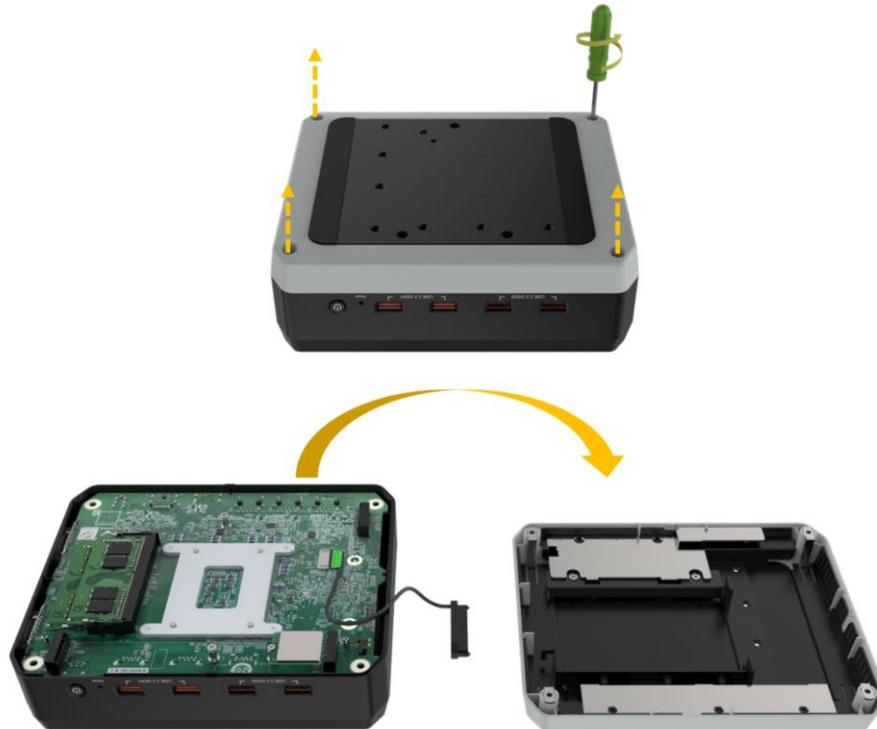

Figure 3-1: Remove the Cover
Step 2: Take off the back cover (**See Figure 3-1**).